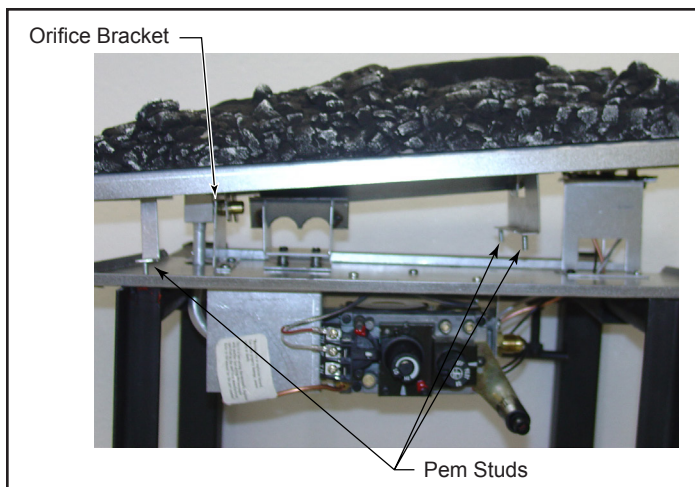

Figure 78 - Tilt ember bed slightly to correctly place on venturi and air shutter.
2. Carefully remove ember bed by tilting the right side up and lifting out toward the right side of the unit, Figure 78.
1. Replace burner making sure venturi on bottom of ember bed aligns with orifice and is seated properly on air shutter assembly, Figure 78. Make sure burner is slid into place at a slight angle and opposite to how it was removed. When burner is slid into place, the three (3) pem studs should slide down through clearance holes into the bottom of the control panel.